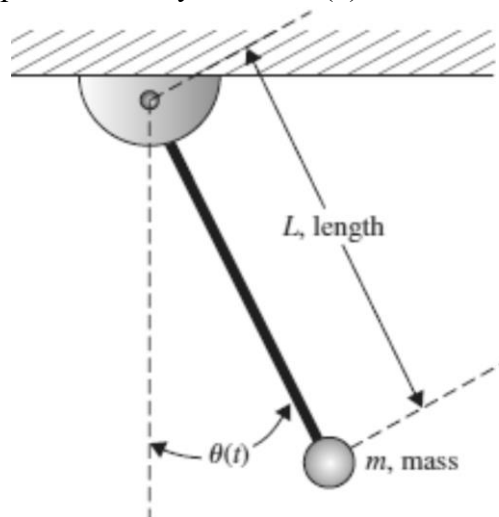

Figure 2. Simple pendulum
3. Consider the system given in preliminary work Figure 2. Make the simulation for the system and obtain the output response. Draw this response to the datasheet. A2